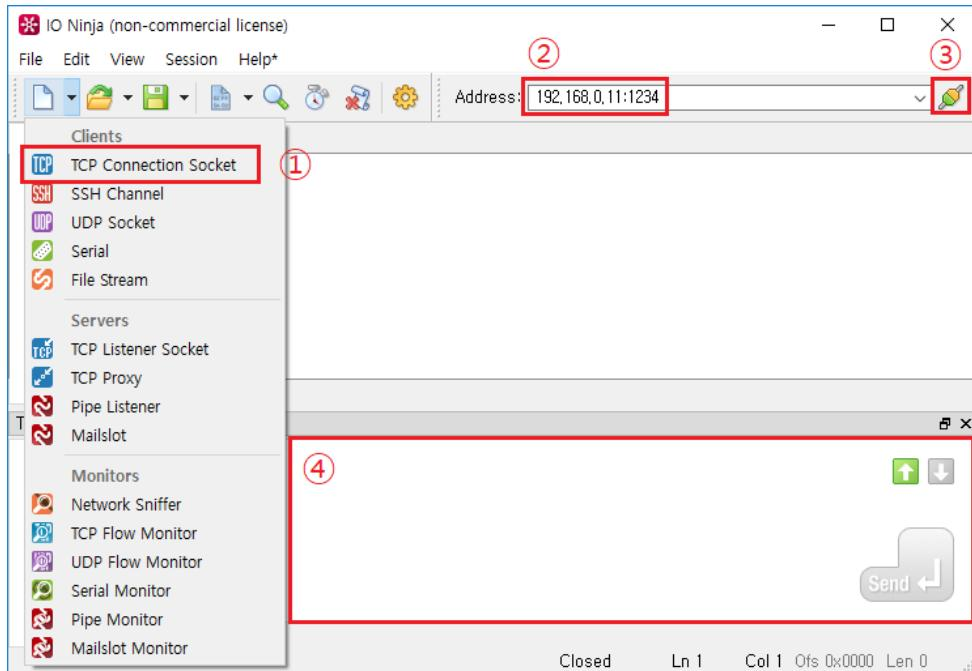

Figure 27: IO Ninja – TCP Client Socket Setting
- a. Select **TCP Connection Socket** (#1, Figure 27).
- b. Enter the IP address and the port number of DA16200/DA16600 (#2, Figure 27).
- c. Click  to connect the socket (#3, Figure 27).
- a. Send data (#4, Figure 27).